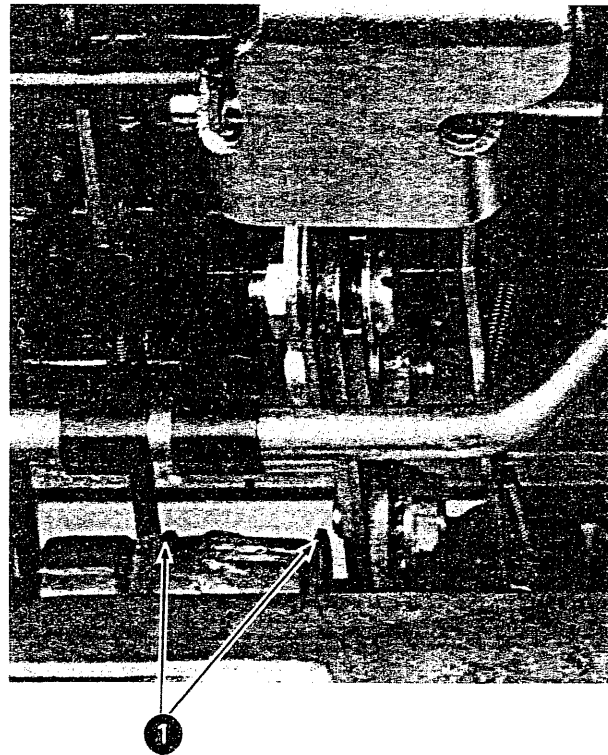

Figure 4-35. Selector-Bail Removal (Steps 4-7)
4. Remove all the C-clips from the positive bail shaft (No. 1, Figure 4-35).